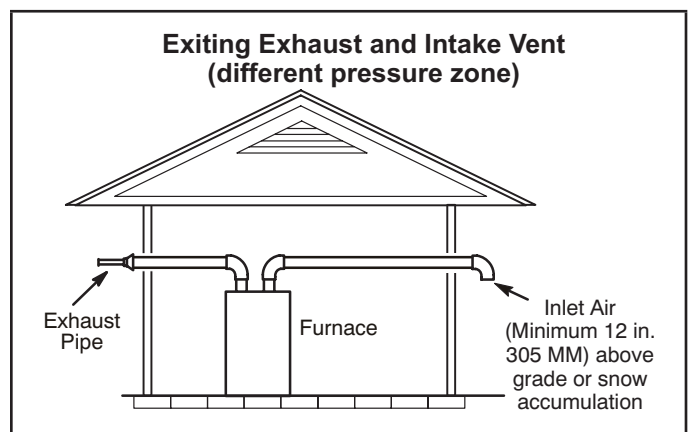
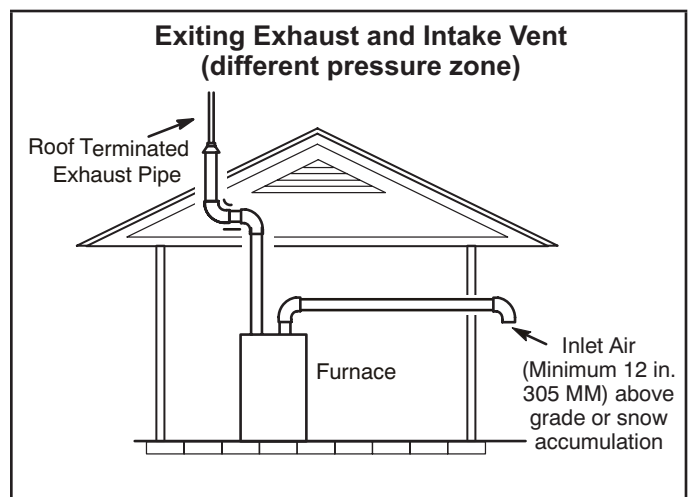

FIGURE 34
FIGURE 35
- 1 - Vent terminations are not required to be in the same pressure zone. You may exit the intake on one side of the structure and the exhaust on another side (FIGURE 34). You may exit the exhaust out the roof and the intake out the side of the structure (FIGURE 35).